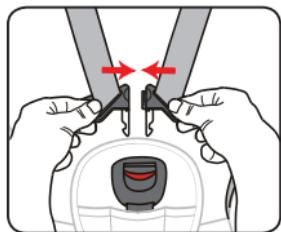
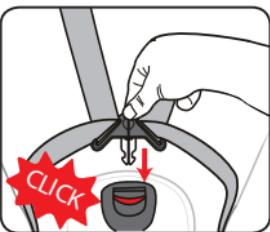
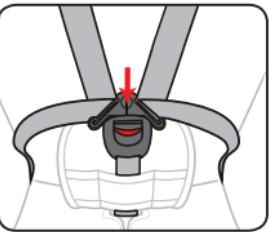

Fig. 1
Fig. 2
Fig. 3
Unclip the harness straps on the back of the backrest, taking the chest protector straps off the hook (A) and removing the two straps from the belt tension bracket fig.1, fig.2, fig.3.
Step 1. Unclip the buckle (fig. 1) and loosen the straps as much as possible.
Step 2. Adjust the car seat to the most reclined position, so that you can see the belt locking ring located underneath. At this point, you can remove the crotch strap, by rotating the ring and sliding it through the slot (fig. 2).
Step 3. Remove the buckle from the padding (fig. 3).